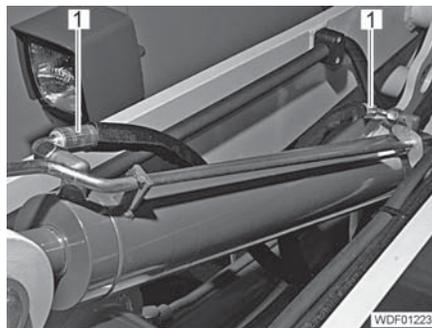

Fig. 196 Hydraulic lines
- Detach and close off the hydraulic lines (Fig. 196,1) at the rod end and bottom end.